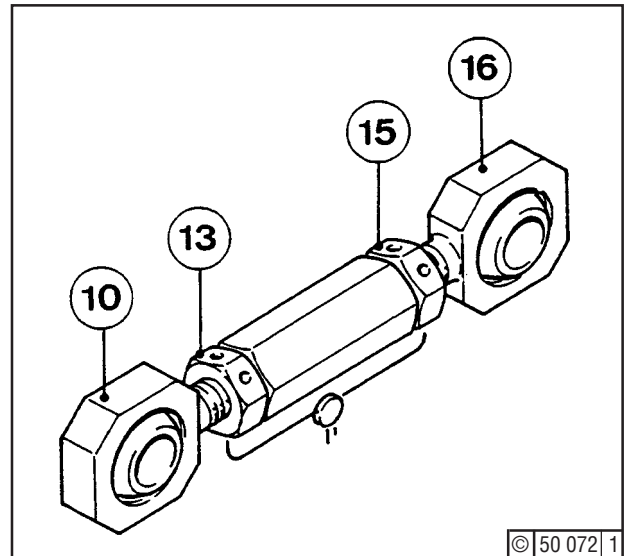

Fig. 4 Heads of links
Loosen hex. nuts (13) and (15) - Fig. 4 - and turn out link heads (10) and (16).